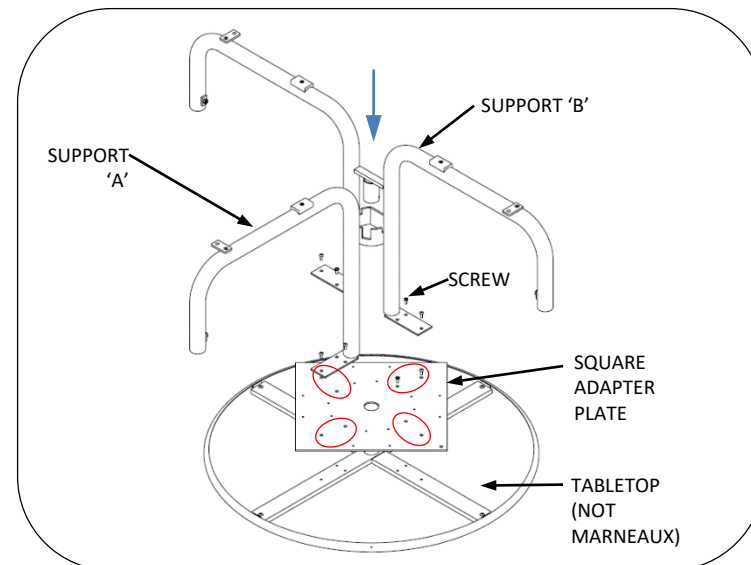
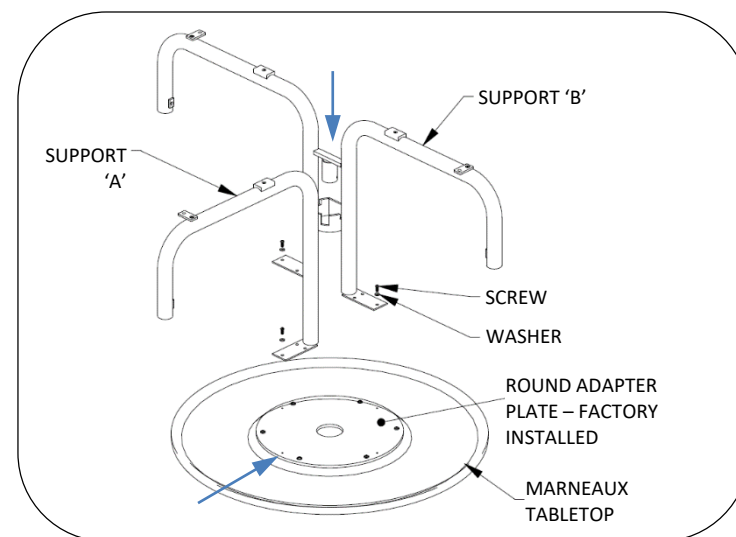

Fig. 1 – 3 Seat table to support install (not Marneaux)
Fig. 2 – 3 Seat table to support install (Marneaux tabletop)
4. Place table support "A" (has 5" ring at center) upside down on table top and align holes, see Fig 1, 3, 5 or 8.
- Marneaux® includes (4) 1/4-20 x 3/4" Phillips pan head machine screws and washers. One screw required at the outer hole in each plate.
6. Hold table support "B" upside down and carefully lower it over support "A" so bar on "B" fits into notch on "A". Loosely fasten support "B" to table top, see Fig 2, 4 6 or 9